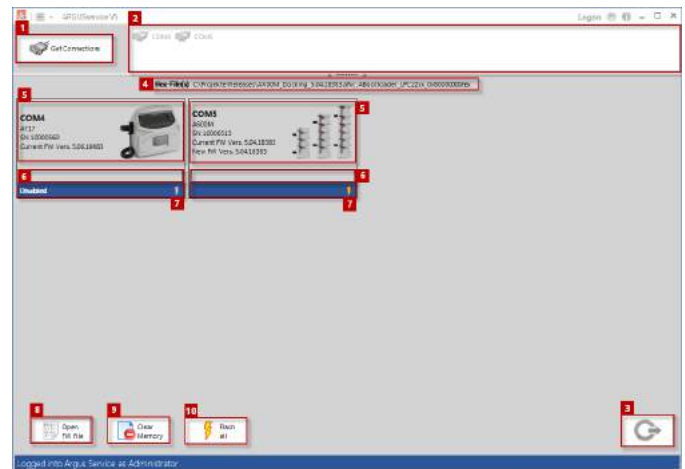

Figure 24: CODAN ARGUSservice Flasher Control
The Flasher Control (Figure 24) permits flashing of a new firmware file to a device. It is possible to upgrade or downgrade a firmware. (The following enumeration refers to the numbered items in Figure 24).
7. Start the flashing process by clicking on "Start flashing" (7 in Figure 24) or "Flash All".